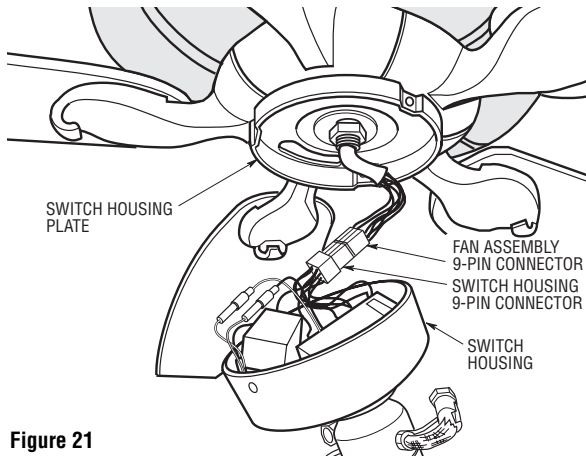

Figure 21
- 5. Attach the 9-pin connector of the switch housing to the 9-pin connector of the fan assembly. (Figure 21).